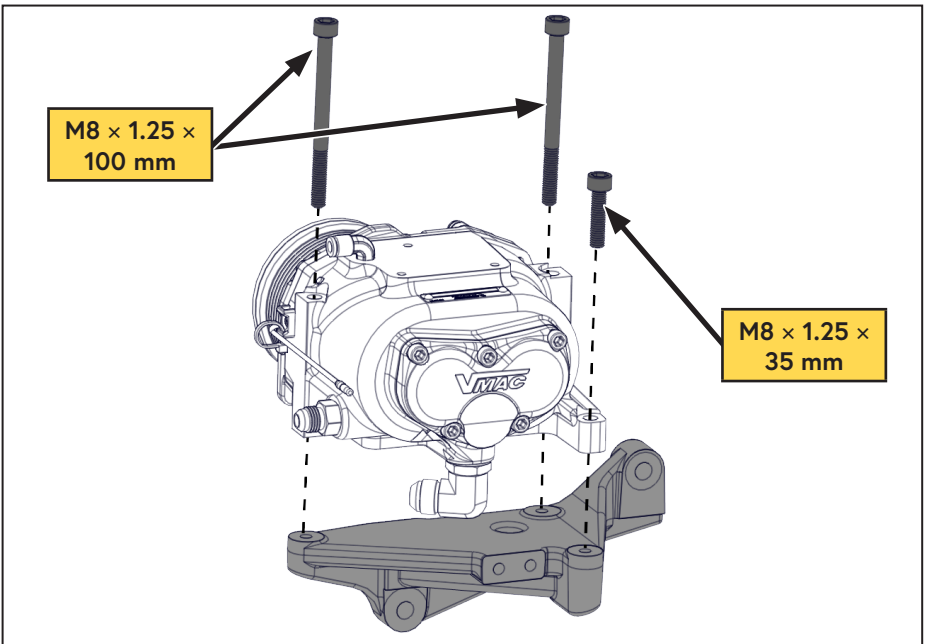

Figure 11 — Mounting the compressor
- Mount the compressor onto the bracket using the 3 supplied fasteners (Figure 11).